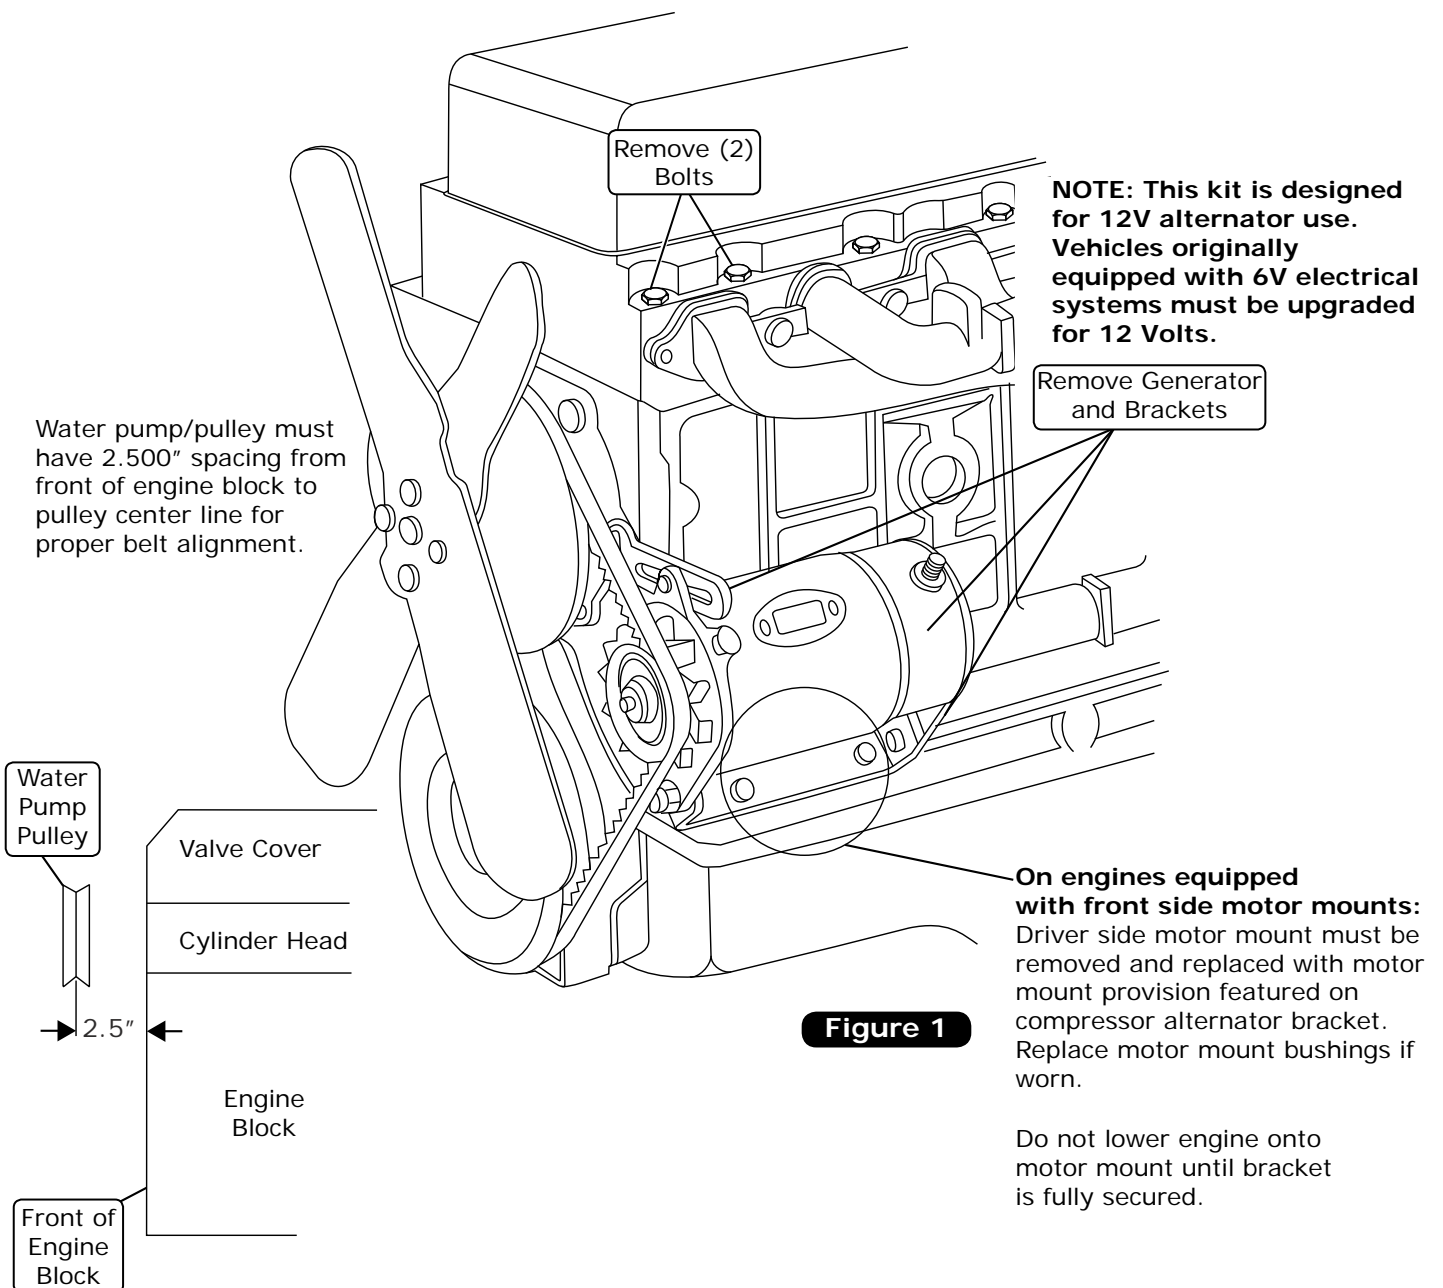

Figure 1
3. Remove the generator and mounting brackets (See Figure 1, below).
4. Remove the front (2) 1/2-13 cylinder head bolts as shown in Figure 1, below.